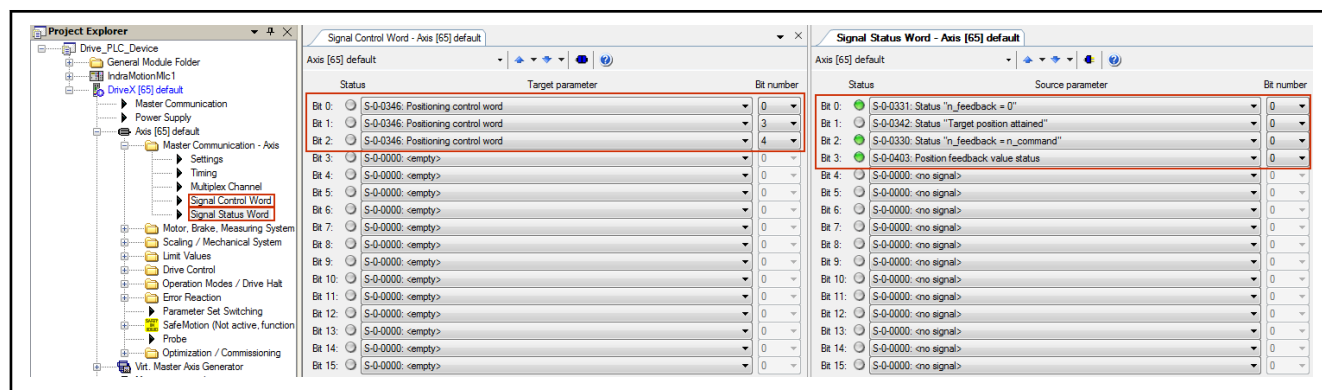

Fig. 6-120: Parameterizing signal control and signal status words using IndraWorks
4. Parameterizing signal control word and signal status word in IndraWorks Ds as described in fig. 6-120 "Parameterizing signal control and signal status words using IndraWorks" on page 504.